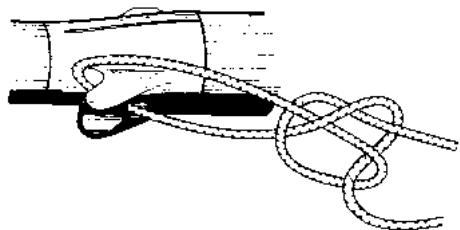

Fig. 9
- e) Thread the remaining end of the shock line through the line holder on the nose cone. Pull on the loose end of the shock line until the elastic expansion ring has expanded approximately ¾ of an inch. Tie the shock line to the nose cone maintaining this tension (Fig. 9).